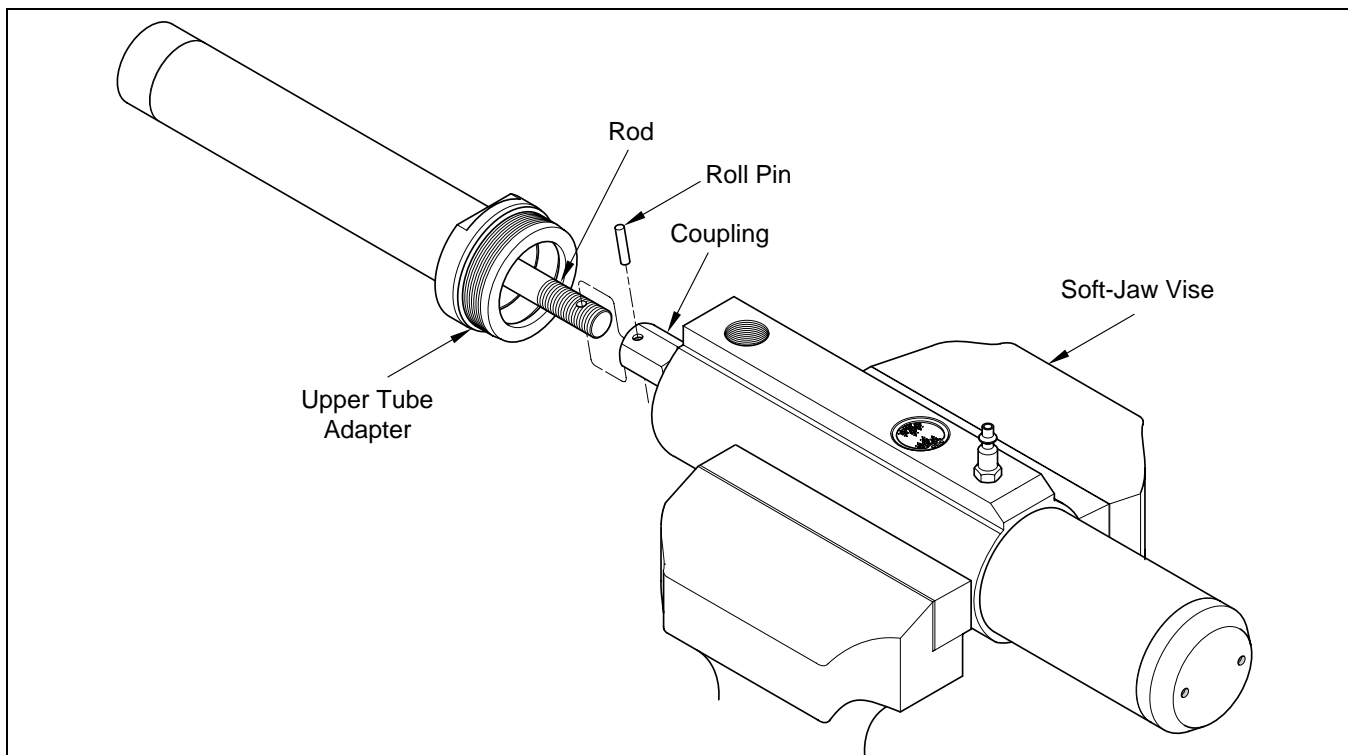

Figure 4 Separation of Pump Tube Assembly from the Air Motor
1. Remove Bung Adapter (49) from the Fluid Cylinder.
2. Place the pump assembly in a soft-jaw vise. See **Figure 4**.
3. Unscrew Upper Tube Adapter (47) from the air motor.